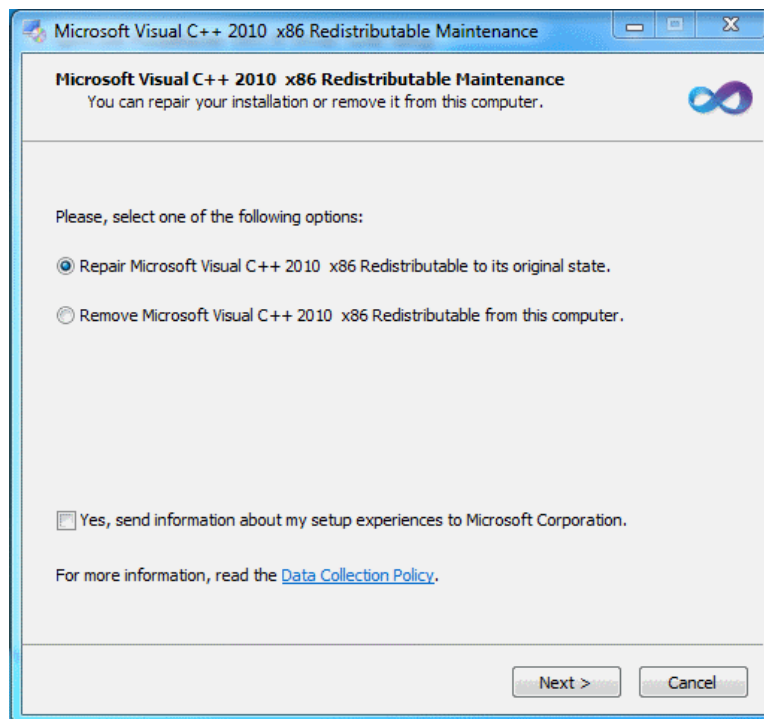

**Figure 43:** Do not remove the Visual C++ redistributable if you already have it installed on your computer.
- You will see the window shown in Figure 43. Select “I have read and accept the license terms.” then click the “Install” button. The remainder of the installation is fully automated. You will see the window shown in Figure 44 when the installation is complete. Click the 'Finish' button to finalize the DDS-IV-1000 software installation.